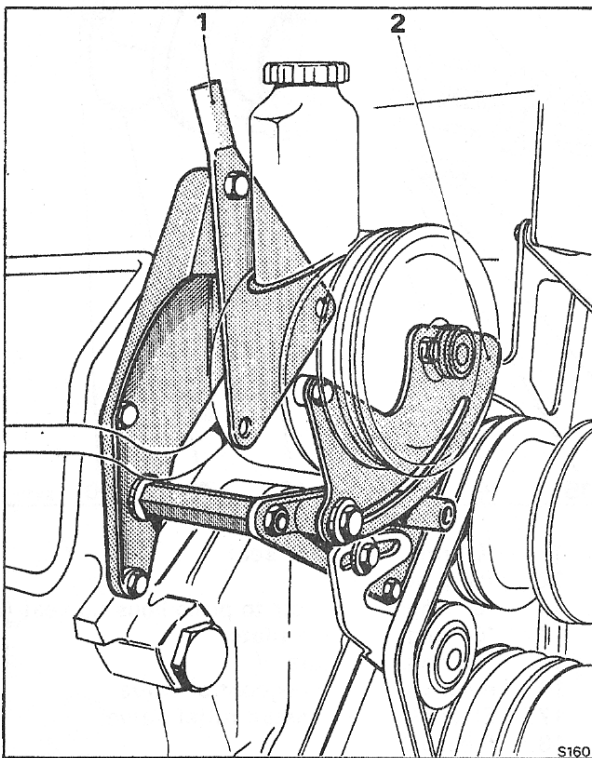

Fig. N15 Pump mountings and belt tensioning
2. To adjust the tension, slacken the setscrew of the slotted swivel bracket at the front of the pump, the setscrew securing the bracket to the rear and above the pump and the union of the supply hose connected at the rear of the pump. Move the pump the required amount (see Fig. N15). Tighten the assembly noting that the pipe union must be torque tightened to the figures quoted in Chapter P.